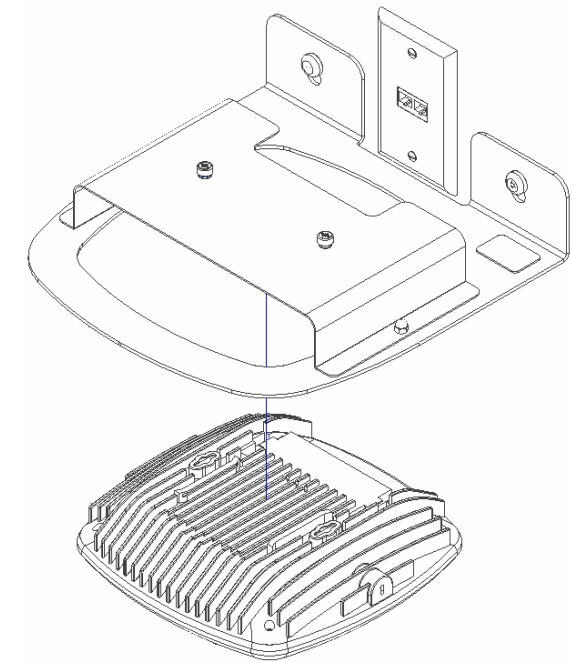

Figure 2
Step 5 – With one hand press the access point to the bottom surface of the mounting plate (Ref. figure 2).